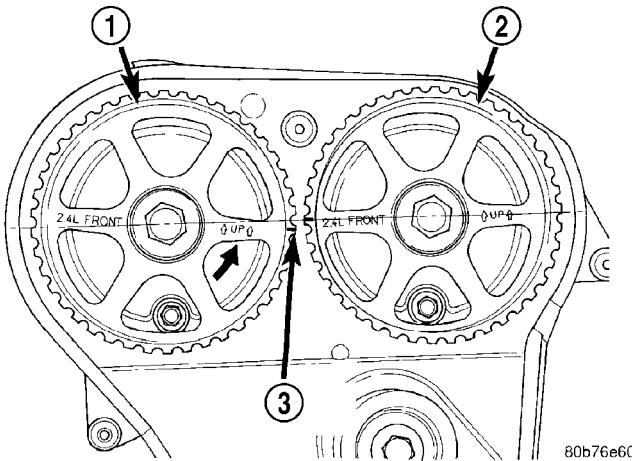

Fig. 125 Camshaft Sprocket Alignment
(1) Set crankshaft sprocket to TDC by aligning the sprocket with the arrow on the oil pump housing.
(2) Set camshafts timing marks so that the exhaust camshaft sprocket is a 1/2 notch below the intake camshaft sprocket (Fig. 125).